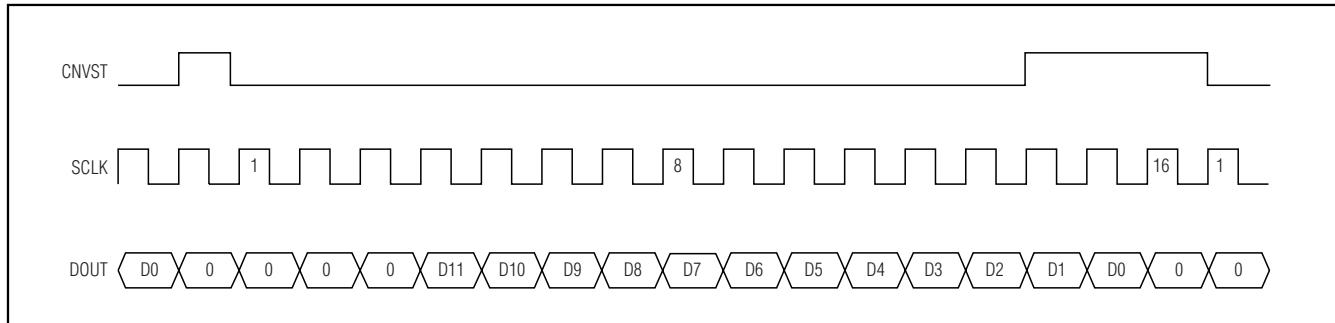

Figure 17. DSP Interface—Continuous Conversion
The MAX1332/MAX1333 can also be connected to the TMS320C54_ by using the data transmit (DX) pin to drive CNVST and the transmit clock (CLKX) generated internally to drive SCLK. A pullup resistor is required on the CNVST signal to keep it high when DX goes high impedance and write (0001)h to the data transmit register (DXR) continuously for continuous conversions. The power-down modes can be entered by writing (00FF)h to the DXR (see Figures 17 and 18).
high frame (LTFS = 0, LRFS = 0) signal. In this mode, the data-independent frame-sync bit (DITFS = 1) can be selected to eliminate the need for writing to the transmit data register more than once. For single conversions, idle CNVST high and pulse it low for the entire conversion. Configure the ADSP21_ _ STCTL and SRCTL registers for late framing (LAFR = 1) and for an active-low frame (LTFS = 1, LRFS = 1) signal. This is also the best way to enter the power-down modes by setting the word length to 8 bits (SLEN = 0111). Connect the DVDD pin to the ADSP21_ _ supply voltage (see Figures 17 and 18).